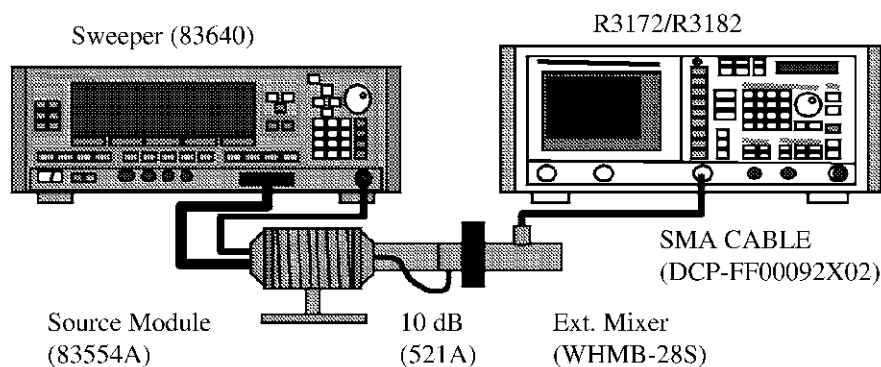

Figure 6-1 Setup of Noise Level Test
1. Connect equipment as shown in Figure 6-1.